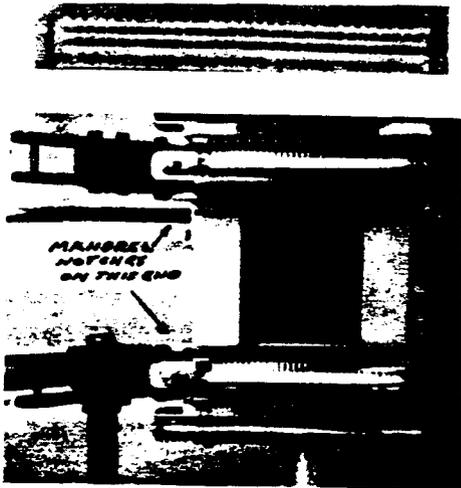

FIG. 19 MANDREL POSITIONING
4.32 One at a time insert the two correct mandrels properly and pressed fully down between the two spring loaded mandrel retainers in the R-4861 tool. Make sure that the slotted (notched) end of the mandrel is pointed to the left, toward the forming head hinges on the clamp side of the R4861 tool. The mandrel wire separation peaks are pointed outward. The mandrel ends must be properly seated in the retainers or damage may result to the wires and tool. See Fig. 19.